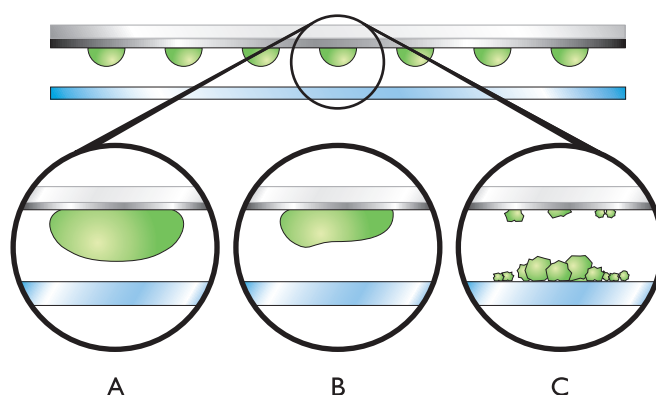

Figure 3
Another key factor in the durability of Bergquist 5-Wire touch screens is the nature of the dielectric separator dots. Bergquist separator dots are applied to the surface of the glass, providing consistent, reliable performance. In contrast, (refer to Figure 3), some manufacturers' separator dots can be misshapen (A), deform during use (B), or fail completely under application pressure (C). Structural failure of the separator dots will significantly increase resistance thereby degrading electrical contact.